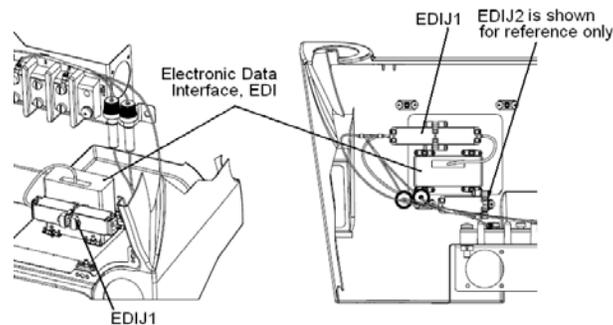

Figure 53-20 Showing the Location of the EDI Connector EDIJ1
14. Move to the passenger's seat. Connect the Engine Data Interface, EDI, at the connector EDIJ1. See Figure 53-20 for the location of the EDI and its associated connector.